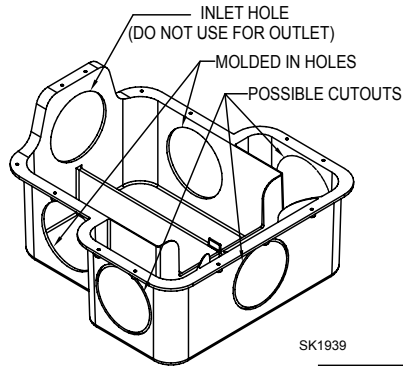
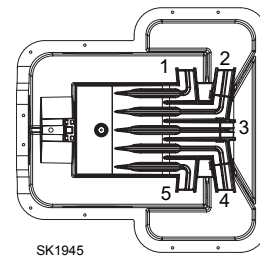

Figure 1.1
Figure 4.1
- 4.1) Determine the required number of slot covers from Figure 1.1 and the required baffle slot for each slot cover. See Figure 4.1.
- 4.2) Blank slot covers should be installed in the baffle slot openings of 2,3 and 4 if their corresponding cutouts are not to be used for trench pipes. See Figure 1.1 and 4.1. When cutouts 2 and/or 3 and/or 4 are used and the splitter system is being pumped to, these baffle slots must have slot covers with the restrictor opening installed.